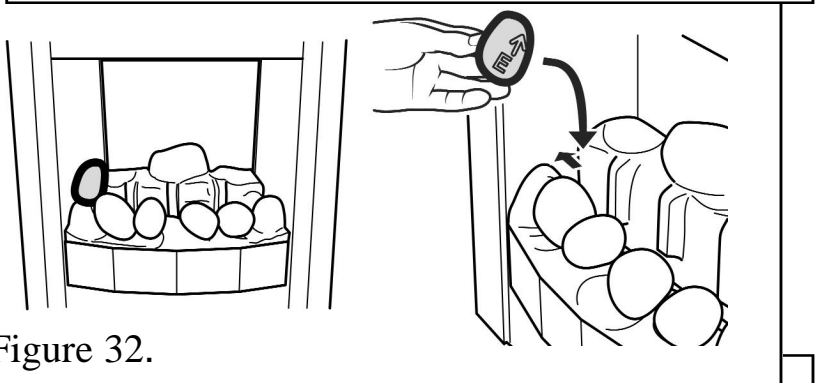

Figure 32.
8. Hold pebble 'E' upright with the arrow pointing to the top. Place pebble 'E' between the front and rear base pebbles. It should rest against the side of the firebox (See figure 32).